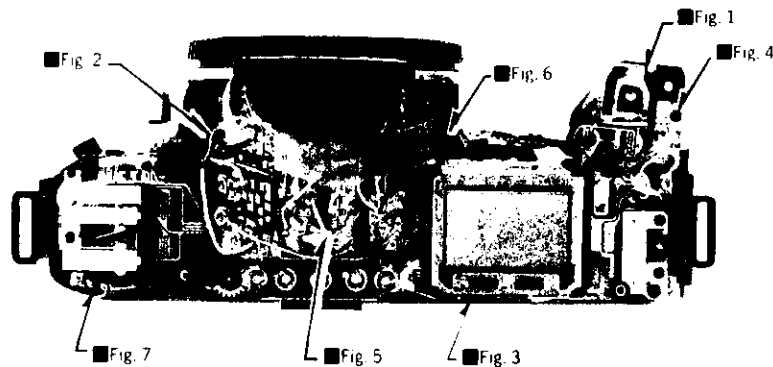
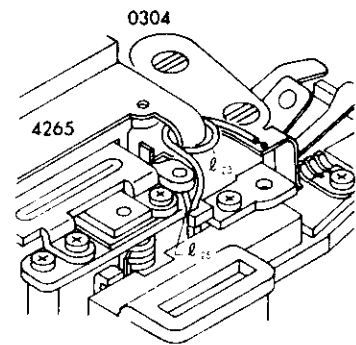

Fig. 1 Release up side
Fig. 2 Lead wire arranging on body's up-left side
■ Fig. 1
■ Fig. 2
- Assemble the parts in the order of ①-⑥.
■ Fig. 1 0584 lead wire, flexible PC board B arranging.
■ Fig. 2 5103, 5107, 5120, 5154 hooking.
- Assemble the parts in the order of ①-⑧.
■ Fig. 2 2509 hooking
1. Set the measuring instrument as Fig. 1.
■ Fig. 1 Flexible PC board installing
■ Fig. 1 Flexible PC boards installing
■ Fig. 2 Flexible PC board A installing
- ① Set mirror box to body. (See p. 6.)
- ② Clean contact area of flexible PC board-A and -D, pile up flexible PC board-A on -D, fitting them to bosses.
- ③ Pile up flexible PC board-B. Then, solder between flexible PC board-D and -B ⑤. (See fig. 1)
- ④ Hold flexible PC board-D, -A, and -B by flexible board pressure plate-A (0461)(4262).
- ⑤ Make sure that flexible PC board-D, and -B are connected securely.
- ⑥ Make sure that flexible PC board-B and -D are soldered each other.
### ■ Flexible PC board-A installing (Fig. 2)
Focus Focus as Fig. 2. Focus Focus
※ Body focus is 1mm longer than conventional SLR body. Check short indicator of dial gauge as Fig. 1 and then measure body focus as Fig. 2.
1. Remove BL-contact-holder-cover-plate (2073-1504), and replace focusing screen by PM type. (fig. 1)
3. Make sure that the scale of master lens is positioned at infinity ( $\infty$ ) and move mirror stopper up and down to bring chart image into focus. (See Fig. 2)
- Adjust finder focus holding mirror with finger as Fig. 2.
1. Loosen 2 screws and adjust by shifting in-finder holder back and forth to set LCD as fig. 1.
(See Fig. 1, 2)